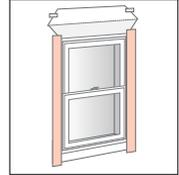

fig. 20
- Cut two pieces of flashing tape for jamb flashings extending 1" above the window head flange and below bottom edge of sill flashing, remove release paper and press tightly along sides of window frame. A flashing roller is highly recommended to complete this process. (fig. 20)